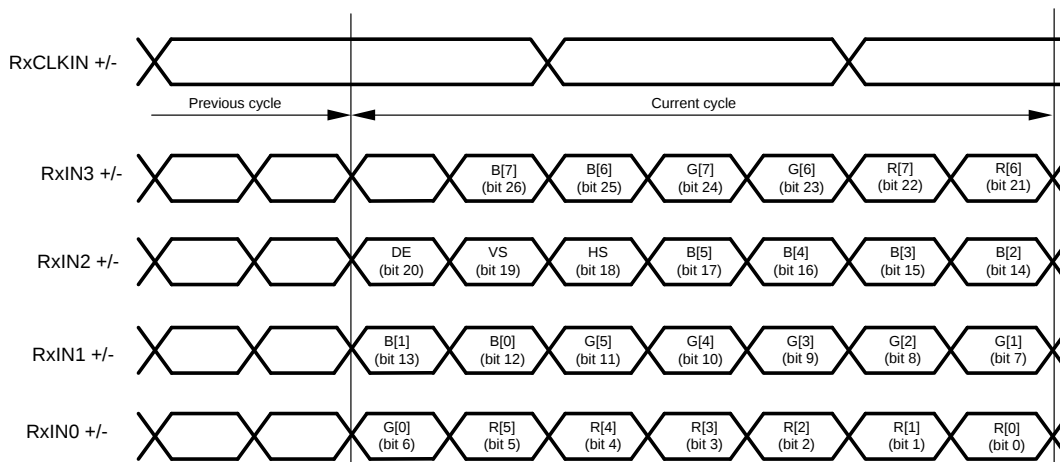

Figure 23. 8-Bit Channel Link Mapping: MSB's on RXIN3
- The normal Channel Link LVDS format (MSBs on LVDS Channel 3) can be selected by configuring the MAPSEL pin to high. See Figure 23 for the normal Channel Link LVDS mapping.